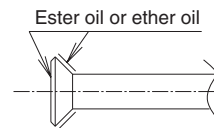

Fig. 12
- When connecting the flare nut, coat the flare section (both inside and outside) with ester oil or ether oil, rotate three or four times first, then screw in. (Refer to Fig. 12)